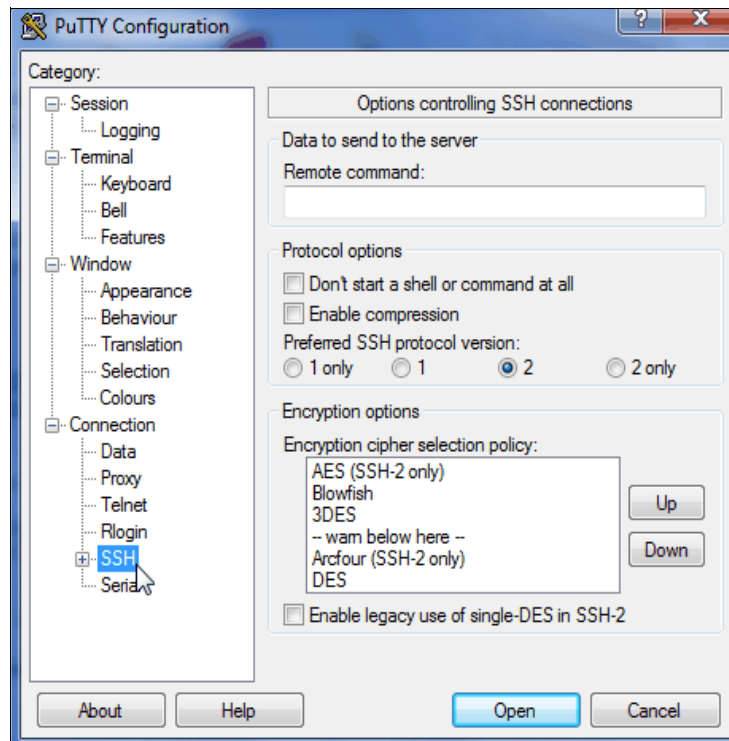

Figure A-11 SSH protocol version 2
- From the Category pane on the left side of the PuTTY Configuration window, click **Connection** → **SSH** to open the PuTTY SSH Configuration window, as shown in Figure A-11.